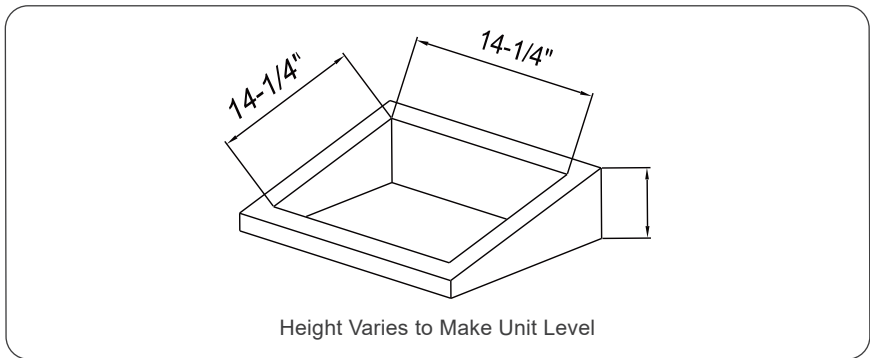

Figure 6
- If the roof of the vehicle is sloped (not level) such that the rooftop air conditioner cannot be mounted within the maximum allowable degree specifications, an exterior leveling shim will need to be added to make the unit level. A referencing leveling shim is shown in Figure 6.